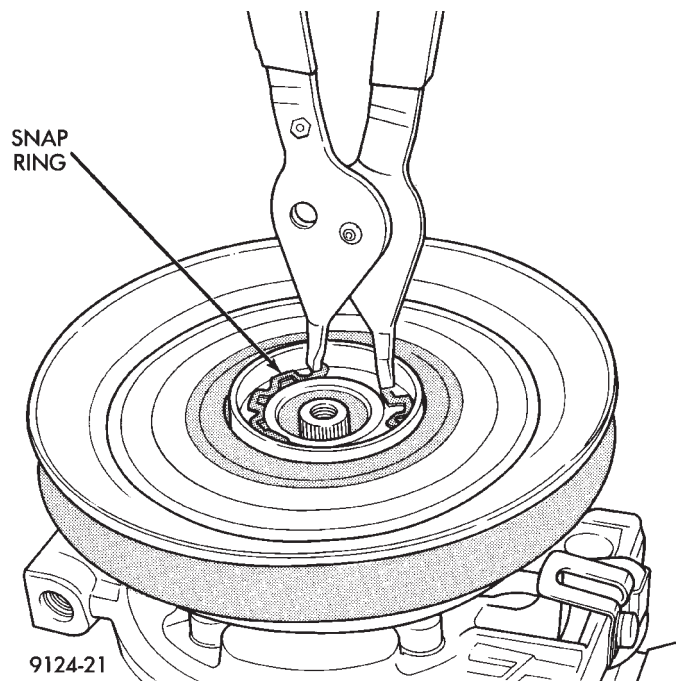

Fig. 7 Removing Pulley Snap Ring
(3) Remove pulley retaining snap ring with snap ring pliers (C-4574), and slide pulley assembly off of compressor (Fig. 7).